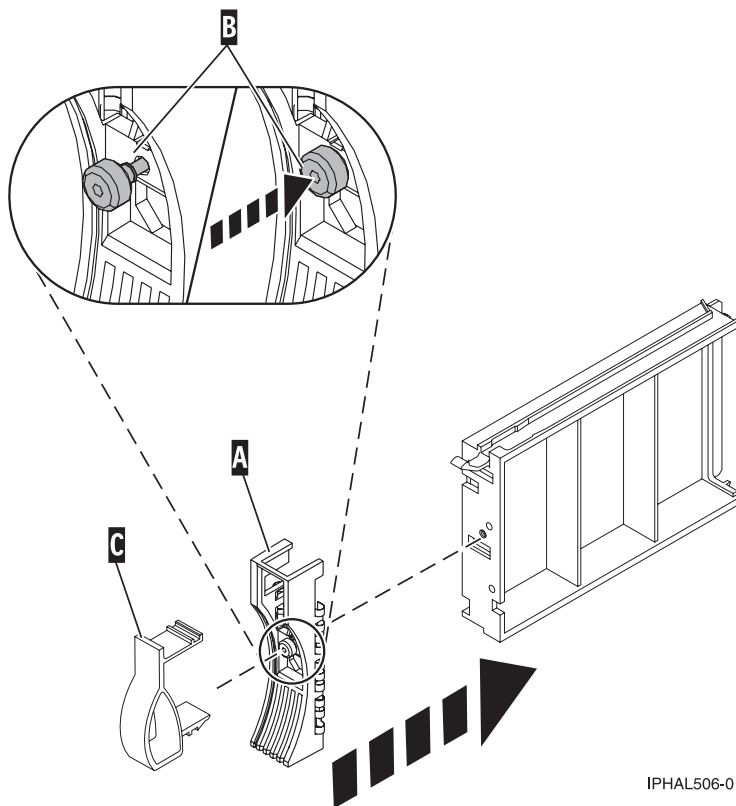

Figure 48. Attaching a bezel to a disk drive filler
2. Press in and then tighten the thumbscrew (B) to secure the bezel to the disk drive or filler.
3. Install the disk drive bezel latch (C) onto the front of the disk drive or filler, as shown in Figure 48.